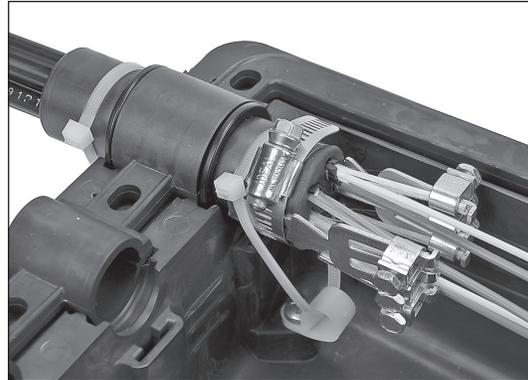

Figure 21
- 4.16 Place cable ties around multiport grommet assembly inside and out as shown in Figure 21.